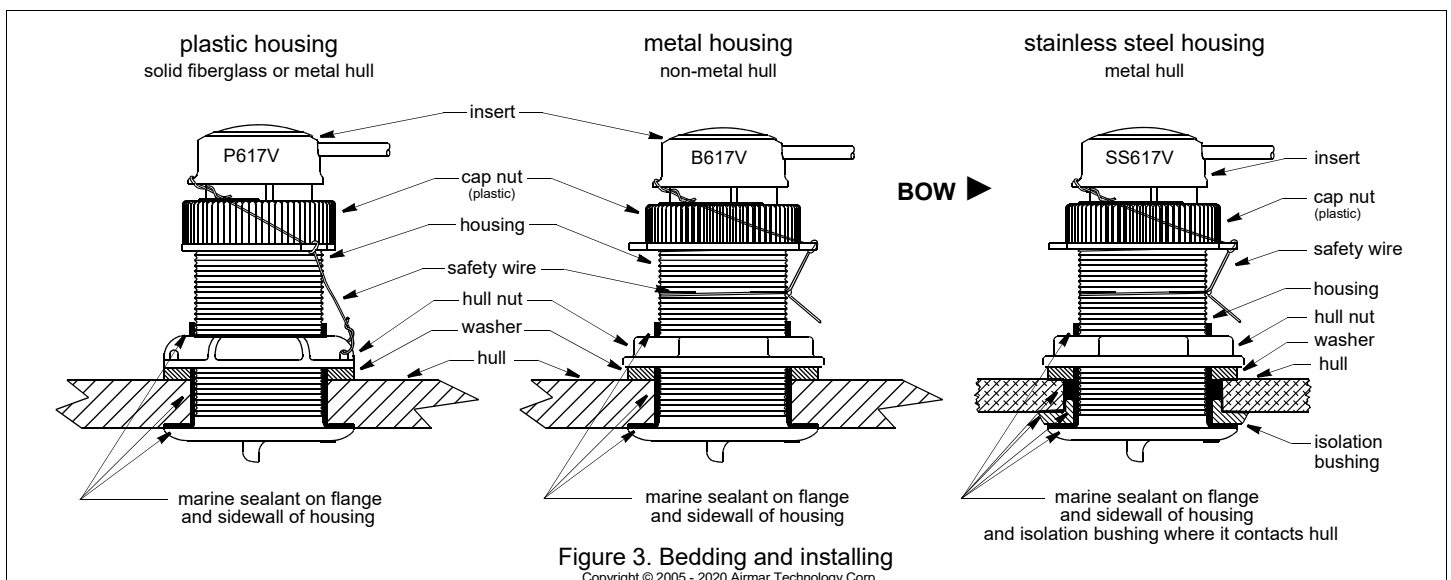

Figure 3. Bedding and installing
Apply a 2mm (1/16") thick layer of marine sealant around the flange of the housing that contacts the hull and up the sidewall of the housing (Figure 3). *The sealant must extend 6mm (1/4") higher than the combined thickness of the hull, the washer, and the hull nut.* This will ensure there is sealant in the threads to seal the hull and to hold the hull nut securely in place.
1. From outside the hull, push the housing into the mounting hole using a twisting motion to squeeze out excess sealant (Figure 3).
6. The insert must be fully inserted into the housing and the cap nut screwed on completely to make a watertight seal (Figure 3). **Slide the insert into the housing with the arrow on the top pointing forward toward the bow.**
2. Remove the insert from the housing by removing the safety wire and unscrewing the cap nut (Figure 3). This will jack up the insert. Remove the insert with a slow pulling motion. Replace it by sliding the blanking plug into the housing.